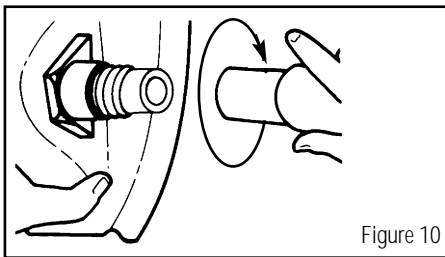

Figure 10
1. Connect breathing tube assembly to helmet by screwing plastic hose connector to fitting located on the side of the helmet. Turn clockwise to tighten. (Figure 10) Ensure you are using a Bullard 88BT. The name and part number are stamped on the side of the breathing tube sleeve. The date of manufacture is stamped on the inside of the sleeve.